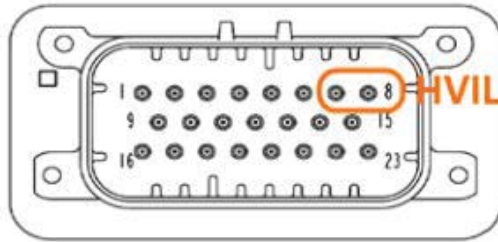

Figure 15
- **Subsystem:** Drive Inverter logic connector X250 (Figure 15).